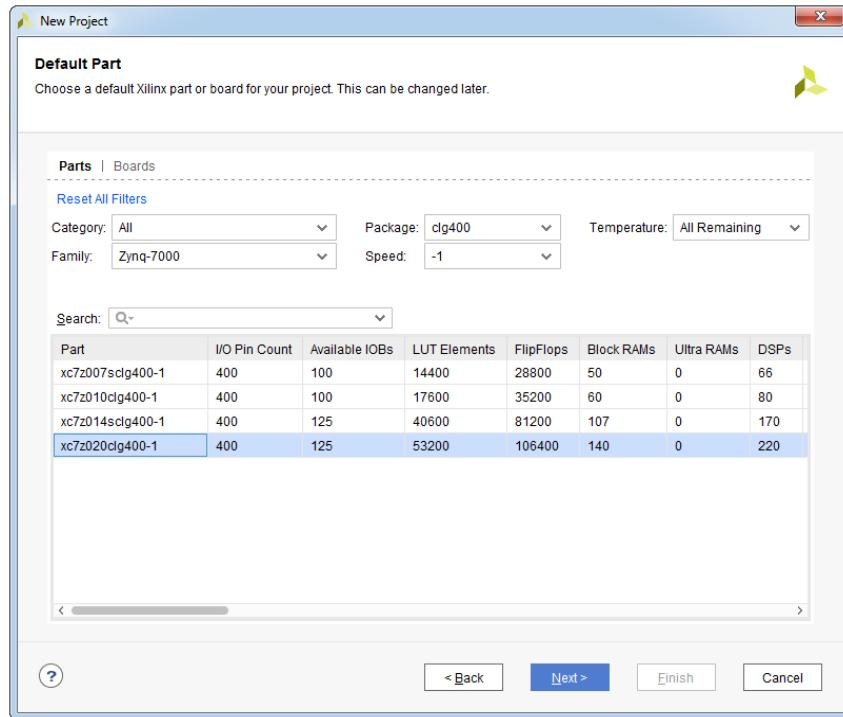

Figure 2.6: Default Part dialog box
8. In the **Default Part** dialog box choose a default Xilinx part or board for your project. The main component of the **socius** development board is **Zynq-7000 AP SoC**, so in the **Default Part** dialog box select **Parts** option and set the filter parameters as it is shown on the Figure 2.6.